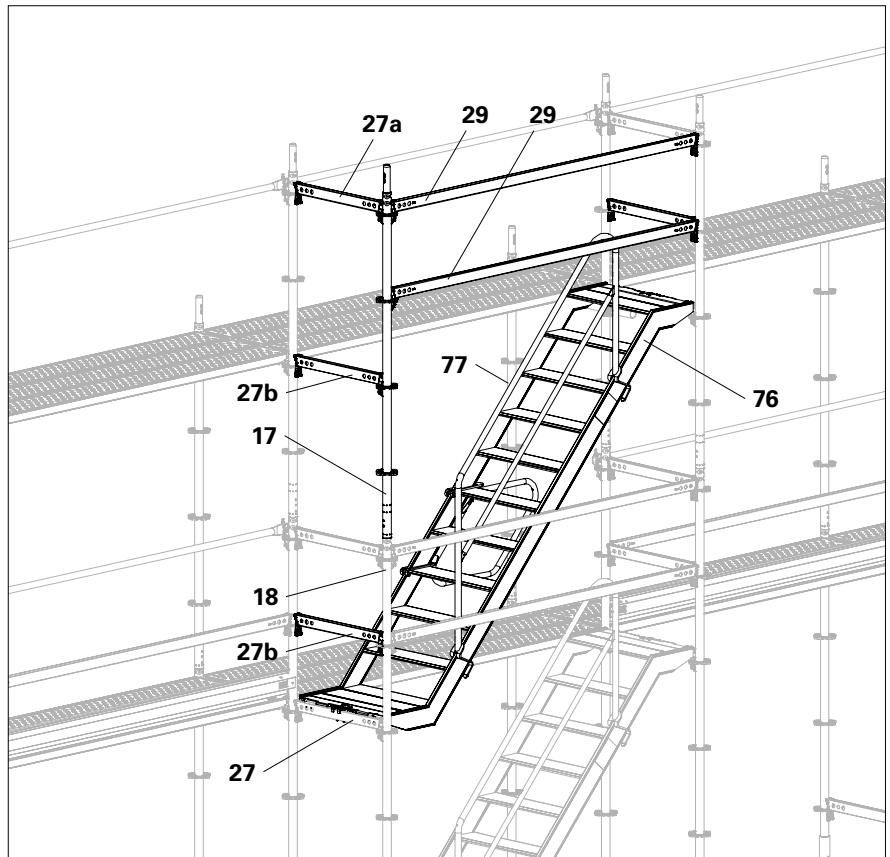

Fig. B8.07
9. Hook two Horizontal Ledgers UH-2 300 (**29**) into the Standards UVR-2 200 (**17**). Hammer all wedges into place. (Fig. B8.07)